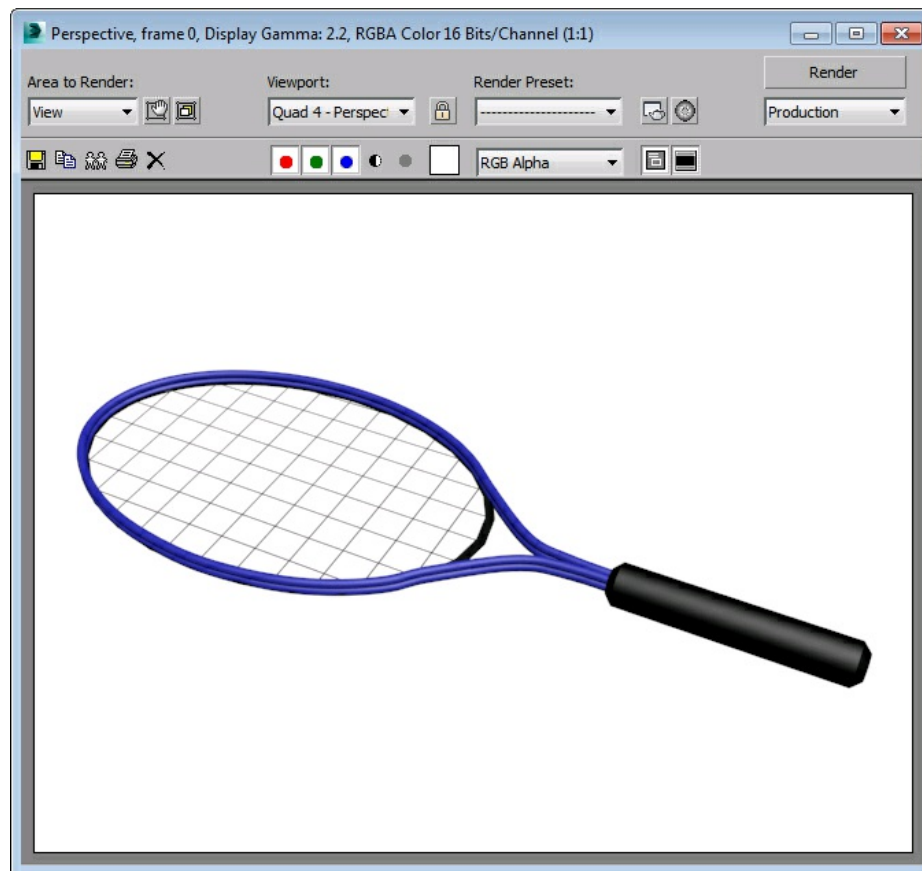

Figure 12-85 The final output
3. Choose the **Render Production** tool from the **Main Toolbar**; the **Rendered Frame** window is displayed with the final output of the tennis racket, as shown in Figure 12-85. Next, close this window.